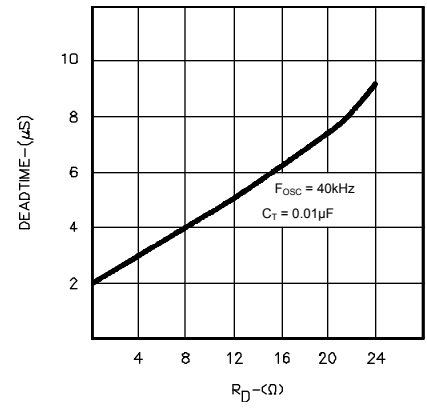

FIGURE 12. OUTPUT DRIVER DEADTIME VS. R_D VALUE
2. If more dead time is required, select a larger value of R_D using Figure 12 as a guide. At 40 kHz dead time increases by 300 ns/ Ω .